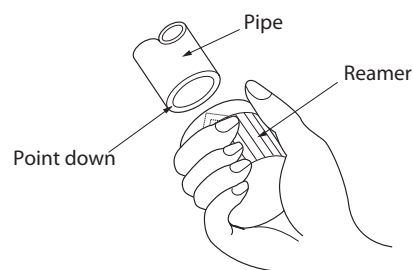

**Fig. 7.2**
- Make sure that the pipe is cut at a perfect 90° angle. Refer to Fig. 7.2 for examples of bad cuts